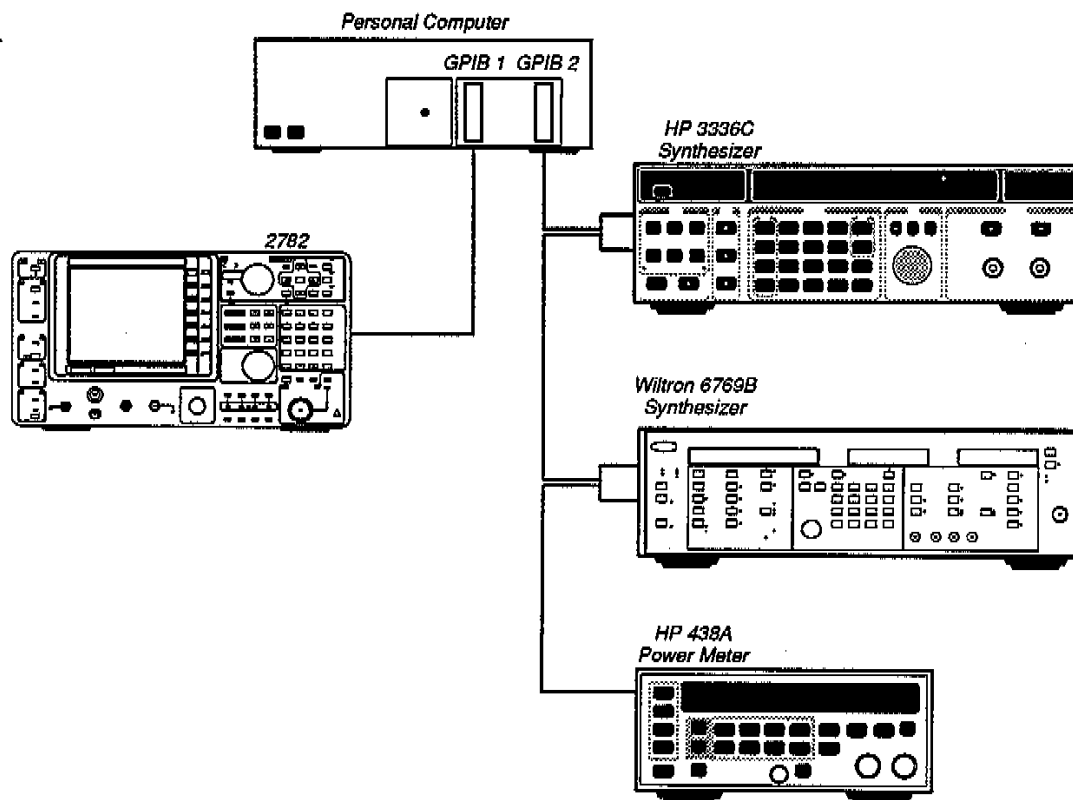

Figure 2-1. GPIB Connections for Flatness Checks.
2. Connect 2782, signal generators, and power meter to the computer through GPIB cables, as shown in Figure 2-1.